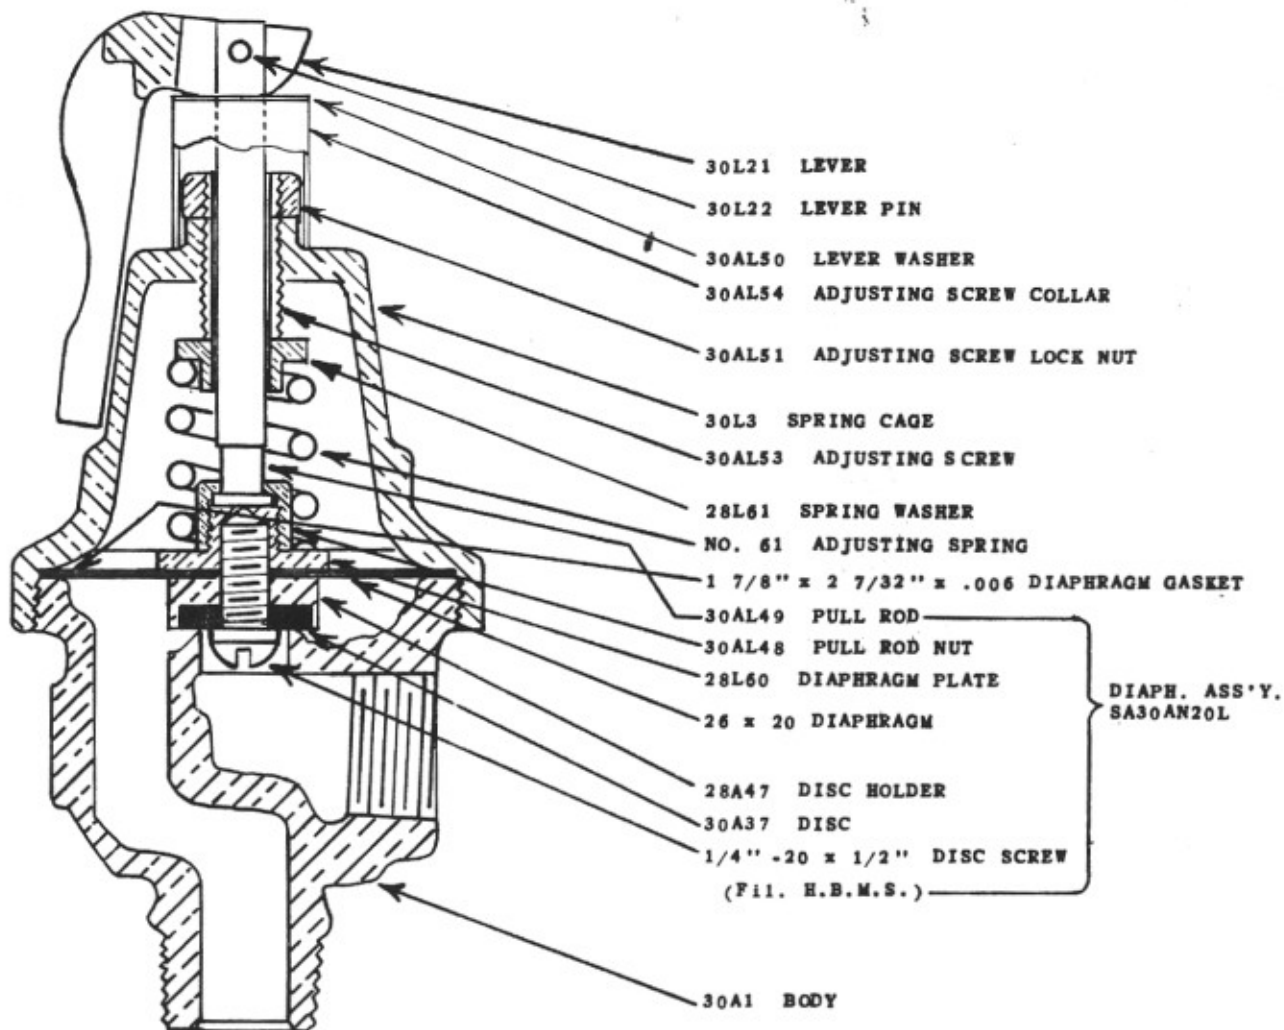

Figure 184
**AIR BLOW-OFF VALVE WATTS NO. 30L:** Refer to Figure 184. If the valve fails to shut off tightly, the cause is probably an accumulation of dirt on valve seat or deterioration of the disc.